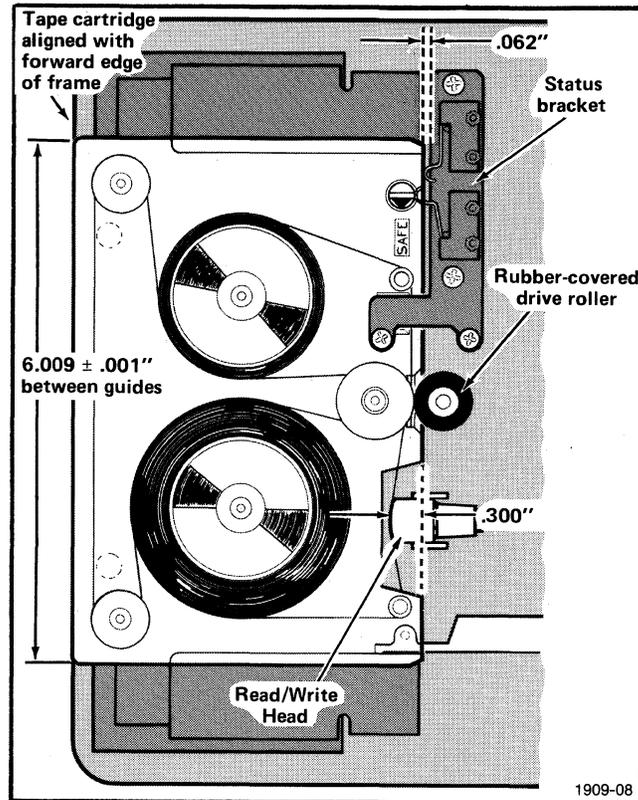

Fig. 3-10. Cartridge Position Dimensions.
11. Position the bracket within the scribe marks (made in step 4) and secure it with two attaching screws and nuts. Check the distance between the bracket and an installed cartridge against Fig. 3-10. There should be a 0.060" space, and the bracket must be **parallel** to the cartridge. Connect the harmonica connector to J360, aligning pin one of each. (Pin one is marked with a small caret.)
However, if it is suspected that the alignment of these parts is in error, or if a part should be dislodged in use, alignment may be checked using Fig. 3-10, which shows the relative position of the critical parts when the cartridge is installed in the proper position. The detent arms should pull the cartridge into this position (the back edge of the cartridge flush with and parallel to the forward edge of the 4924 frame) when the cartridge is installed.